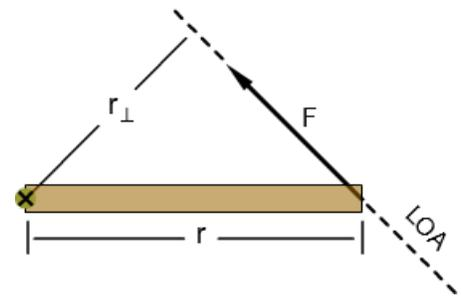

Figure 2a: Torque on a rod
Consider the three forces, **F** in Figures 2a-c. All three act in the plane of the page. The rod is hinged so that it can rotate around its axis of rotation which is normal (perpendicular) to the page. Thus the rod can only rotate in the plane of the page.
Another quantity, which sadly has no name, is r . r is the distance between the axis and the point of application of the force. Notice in Figures 2a-c that r and r_{\perp} are sometimes, but not always, equal.
Often $0 < r_{\perp} < r$. Thus $0 < r_{\perp}F < rF$ as in Figure 2a. We will return to this general case in the last part of the lab.
11. Try it in both directions. Note that the farther you push it sideways the quicker the right end of the beam falls. For the following, push the pulley to the left to an angle similar to the one in Figure 2a. Look at the angled string. The force it exerts on the clamp is directed along the string. Now imagine the string as a force vector, up to the left. Form a mental image of the x and y-components of the tension. When the beam is in equilibrium, that is, horizontal, the line of action of the horizontal, x-component, T_x , passes directly through the rotation axis (\times). Thus its lever arm is zero and it produces zero torque as shown in Figure 2c. The line of action of the vertical, y-component, T_y , is perpendicular to the beam. Its lever arm is the maximum possible length and produces the maximum possible torque. At what angle **relative to the beam** would that force, T_y be equal to half of T ? _____°